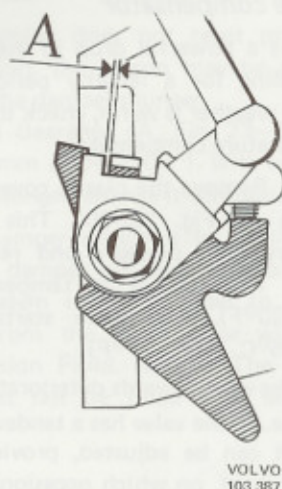

Fig. 23-19. Adjusting the control
6. Adjust the link rods between the carburetors and throttle control shaft. With the control against its stop on the manifold bracket, adjust the link rods to obtain a clearance of approx. 0.1 mm (0.0039") between lever and throttle shaft flange, see Fig. 23-19.
6. Adjust the link rods between the carburettors and the throttle control shaft. With the control against its stop on the manifold bracket, the link rods should be adjusted so that there is a clearance of about 0.1 mm (0.0039") between the lever and the flange of the throttle spindle. See Fig. 23-19.